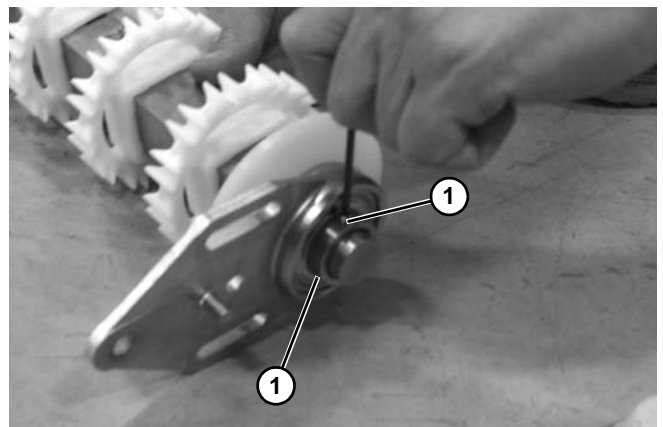

Figure 56
7. Loosen two set screws (**Figure 56, item 1**).